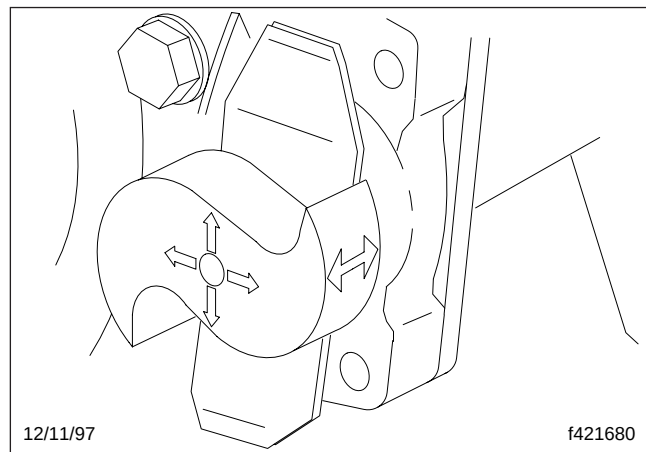

Fig. 7, Checking Free Play
4. Check the camshaft radial free play, as follows. See Fig. 7.